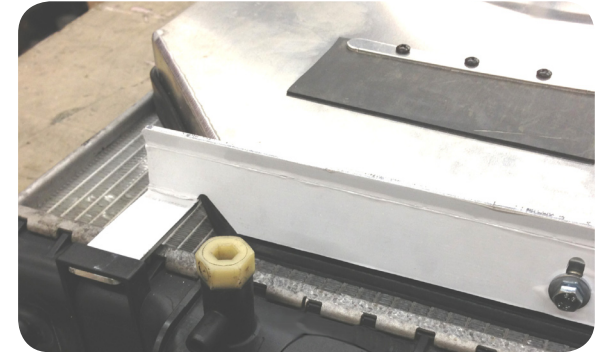

Fig. 2
3. Slide bottom bracket into loops on bottom of radiator at an angle (**Fig. 2**). Place top brackets over radiator posts and slide down until firmly positioned.